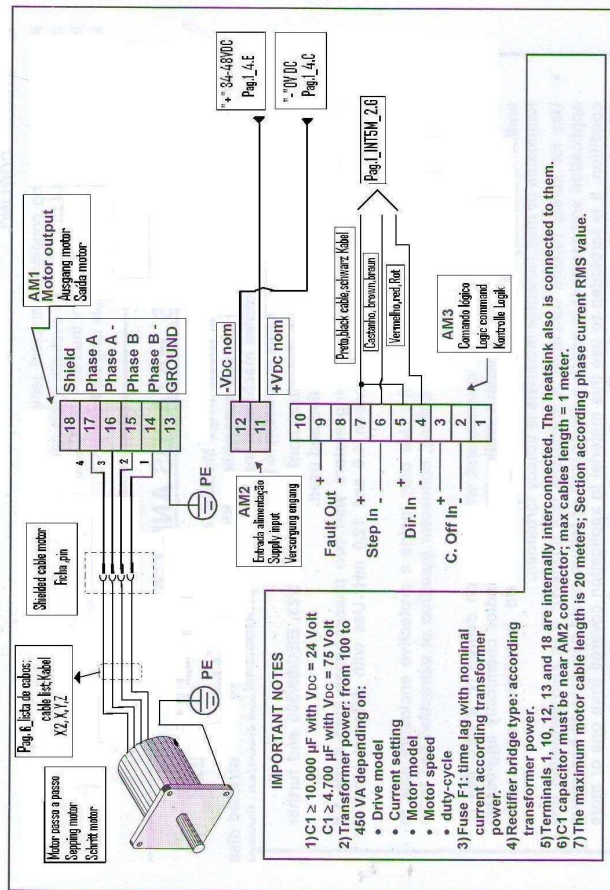

Fig. 6
3) POWER INPUTS AND OUTPUTS (AM1 and AM2 Connector; see fig. 6 and 8)
- 13 - AM1 GROUND; connect to Protective Earth terminal (PE).